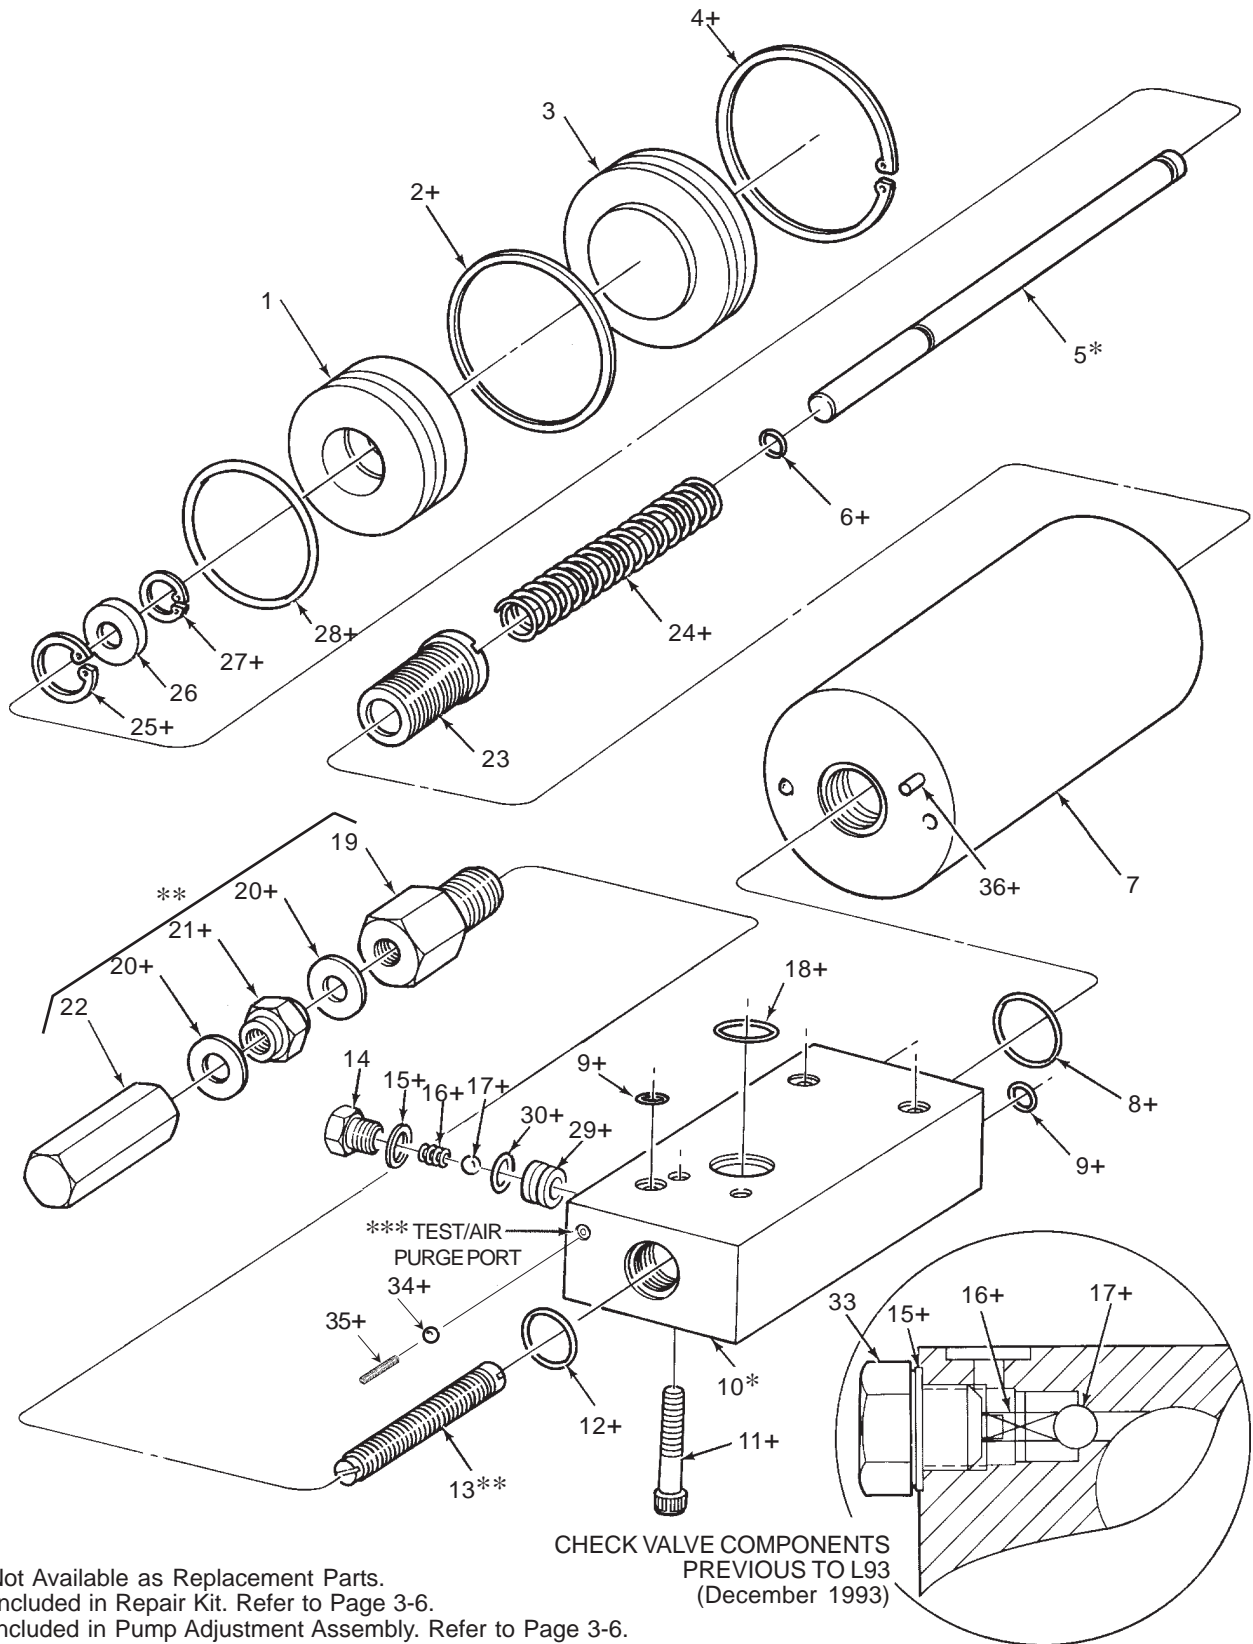

Figure 3-2. Pneumatic Pump, Exploded View
3.3.5 **Pneumatic Pump Parts List.** Table 3-2 identifies the parts indexed in Figure 3-2.